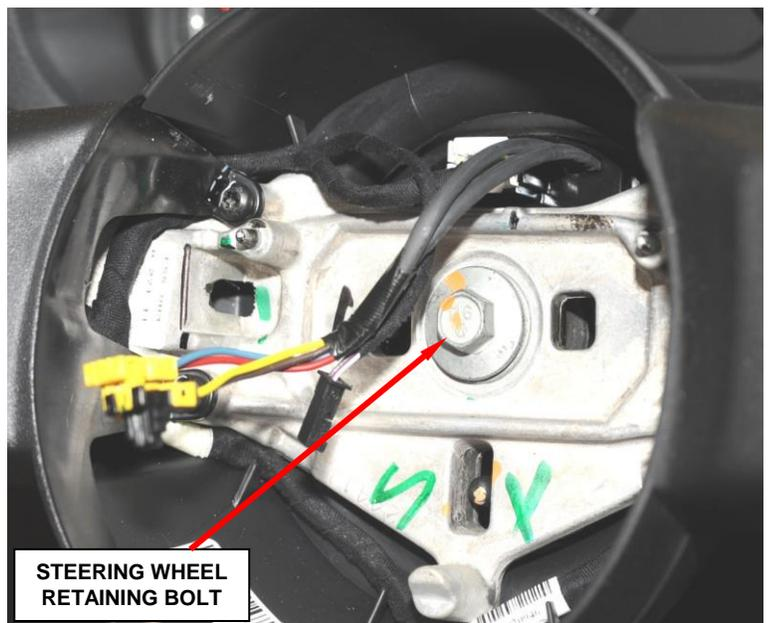

Figure 2 – Steering Wheel Retaining Bolt
5. Remove and discard the steering wheel retaining bolt from the steering shaft (Figure 2).